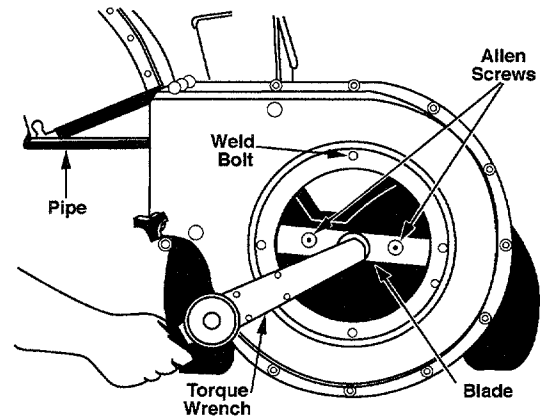

Figure 19
- Lower the hopper assembly. Block up the housing. See figure 19.